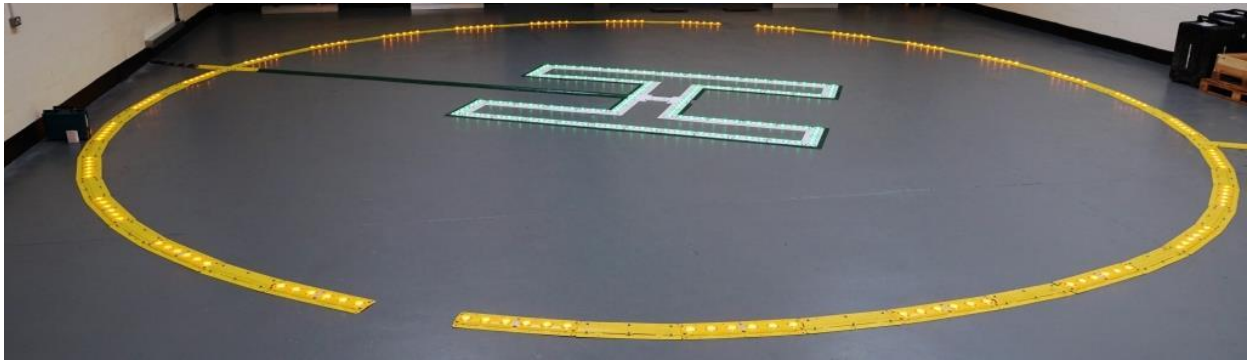

Figure 18 - Assembled Circle
2. The circle is now completely assembled! Please see figure 18 above.